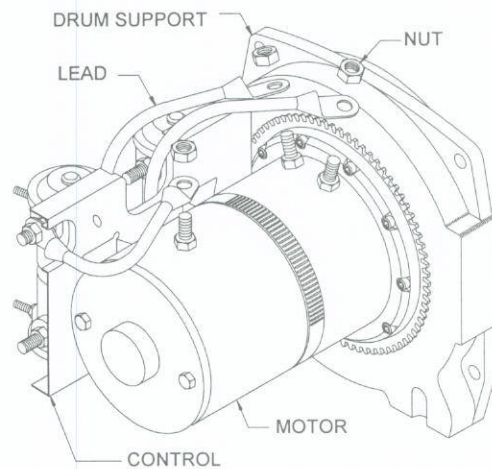

Figure 2.10
5. Remove three nuts and control leads from motor. Disconnect leads (*Figure 2.10*).
12. Connect leads to terminals and secure with three nuts (*Figure 2.10*).